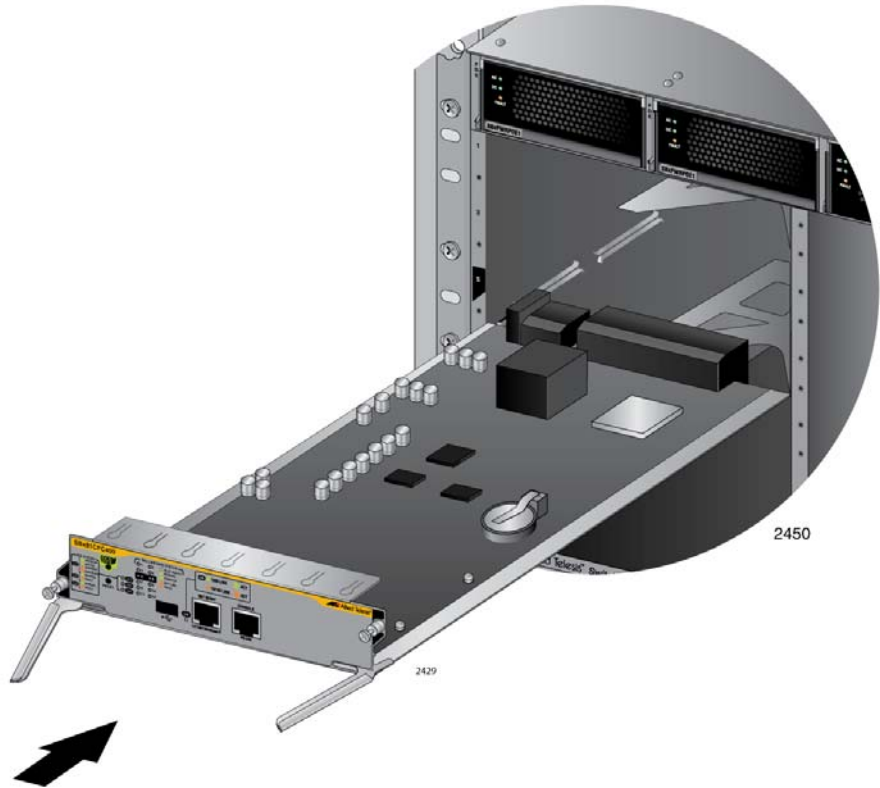

Figure 63. Aligning the AT-SBx81CF400 Card in the Chassis Slot
6. Align the edges of the AT-SBx81CF400 Controller Fabric Card with the internal chassis card guides in slot 5 or 6 of the AT-SBx8112 Chassis. Figure 63 on page 123 shows the AT-SBx81CF400 Card aligned in slot 5.